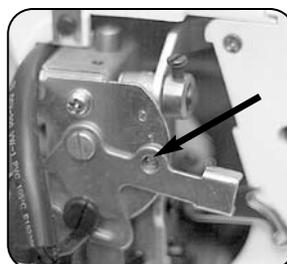

Fig. 5
2. Move the lever until the desired number is displayed in the opening of the lever [Fig. 5]. Standard setting is 2 for most sewing. To increase pressure, move to a higher number. To decrease pressure, move to a lower number.